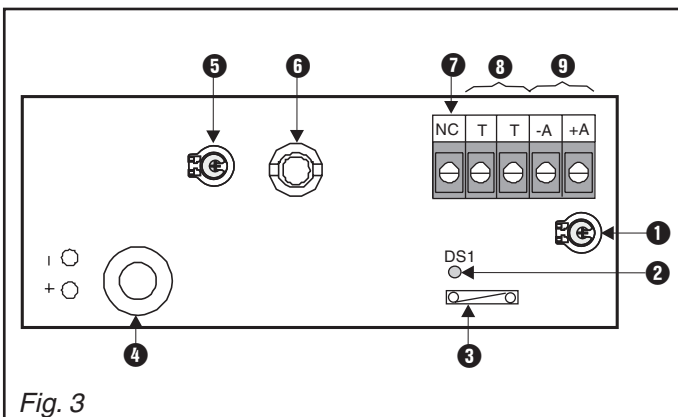

Fig. 3
- Knockouts ①, ⑤ for cable inlet.
- Knockouts ②, ③ for attachment of housing.
- Knockout ④ for disconnection monitor screw.
- Speaker ⑥.
- WMC 11 circuit board ⑦.
3.3 WMC 11 circuit board (Fig. 3)
- Audio connection ⑨.
- Tamper output ⑧.
- Free terminal ⑦.
- LED ②, flashes to outside during monitoring (microphone active).
- Switch ③ for "microphone active" LED.
- Tamper switch ⑥.
- Microphone ④.
- Potentiometer ① for speaker volume.
- Potentiometer ⑤ for microphone sensitivity.
The sensitivity of the microphone must be matched to the room and ambient noises (potentiometer ⑤, Fig. 3). Where sensitivity is reduced, the reception of quiet signals naturally reduces. The following ranges are normally obtained.
Set the required volume using potentiometer (①, Fig. 3).
- Switch (③, Fig. 3) open: LED active.
- Switch (③, Fig. 3) closed: LED inactive.